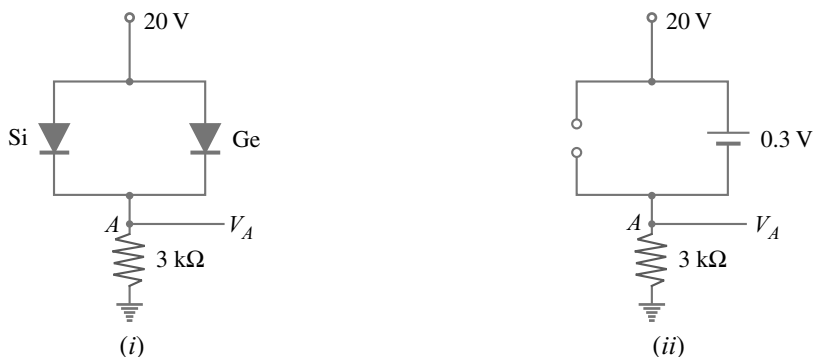

**Fig. 4.17**
**Example 4.15.** Determine the current  $I$  in the circuit shown in Fig. 4.17 (i). Assume the diodes to be of silicon and forward resistance of diodes to be zero.
**Solution.** The conditions of the problem suggest that diode  $D_1$  is forward biased and diode  $D_2$  is reverse biased. We can, therefore, consider the branch containing diode  $D_2$  as open as shown in Fig. 4.17 (ii). Further, diode  $D_1$  can be replaced by its simplified equivalent circuit.